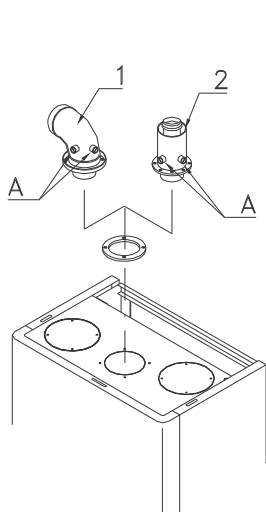

Fig.9
If **horizontal** coaxial pipes are chosen, the boiler must be fitted with a curved coaxial connector (1) Fig. 9, with **vertical** coaxial pipes, straight coaxial connector (2). Fig.9 must be fitted.